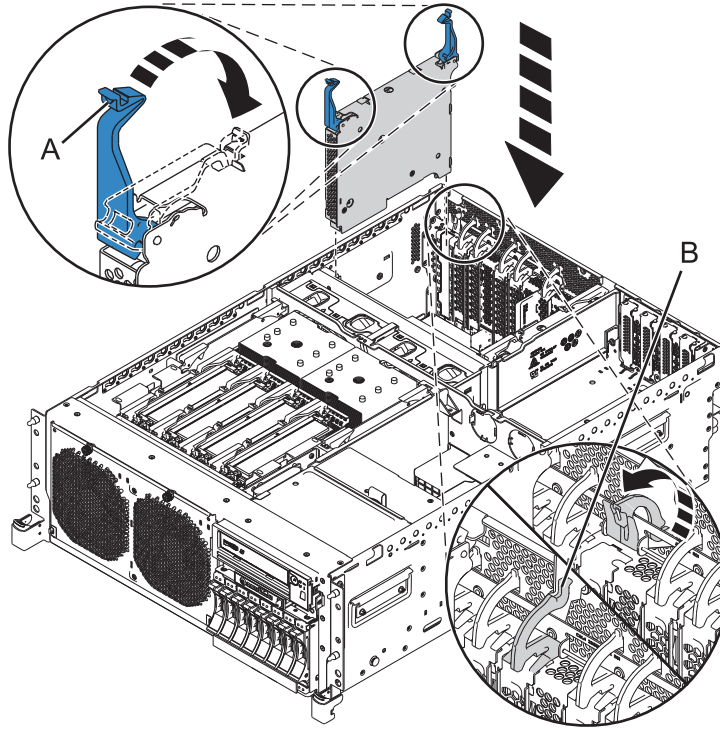

Figure 3. Adapter installation in a rack-mounted system
13. Evenly rotate the latches (A) into the locked position, as shown in Figure 3 on page 4.
14. Rotate the latch (B) into the closed position to lock the adapter into the adapter slot.